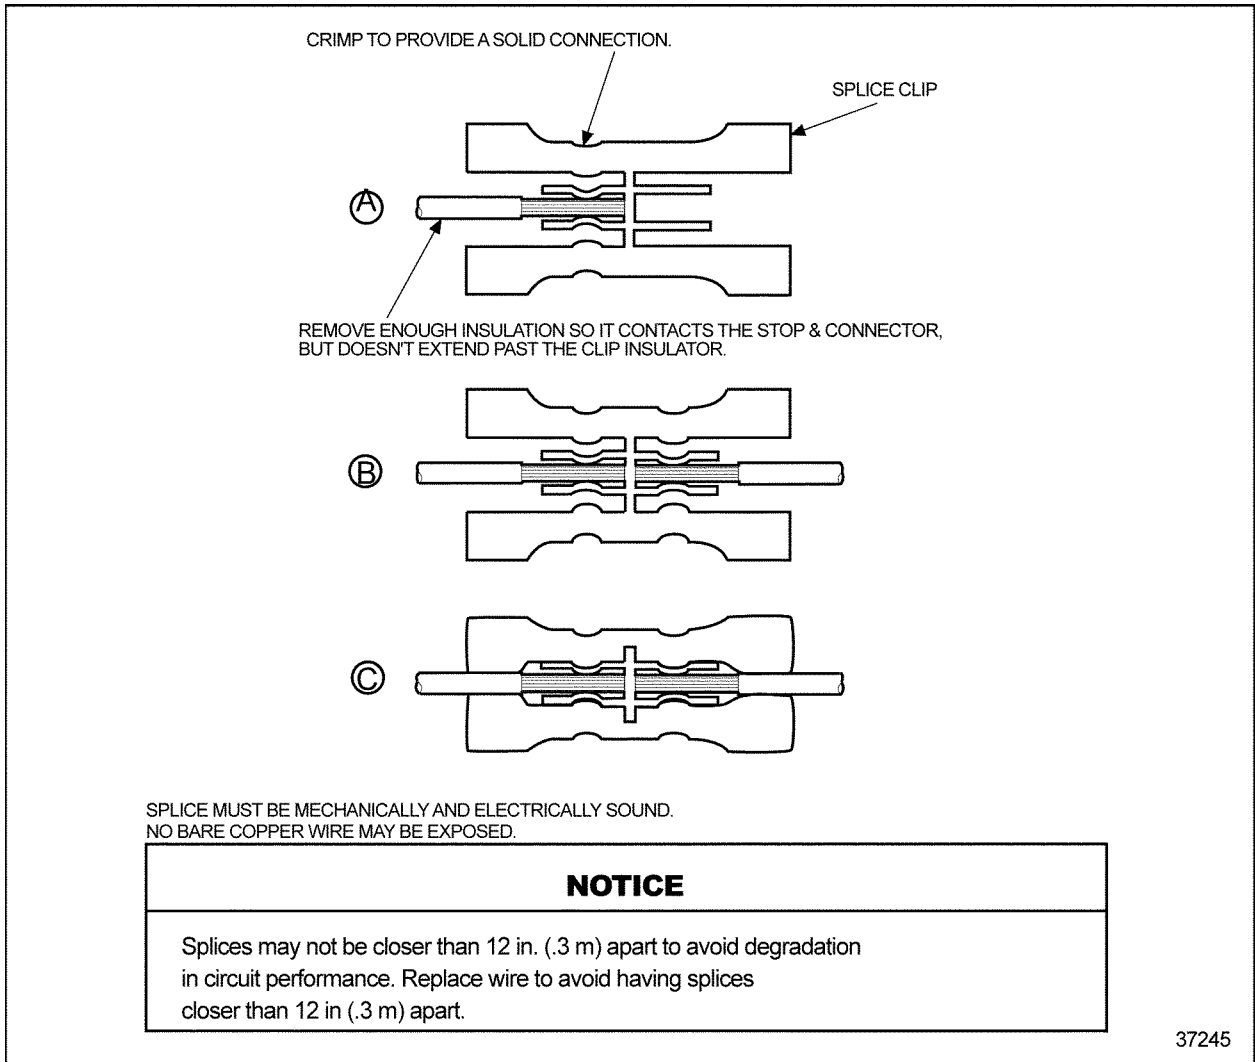

Figure 3-34 Splicing Straight Leads - Alternate Method 1
3. Insert one wire into the splice clip until it butts against the clip. Stop and crimp (see Figure 3-34, A).
4. Insert the other wire into the splice clip until it butts against the clip stop (see Figure 3-34, B).
7. Shrink the splice clip insulative casing with a heat gun to seal the splice (see Figure 3-34, C).